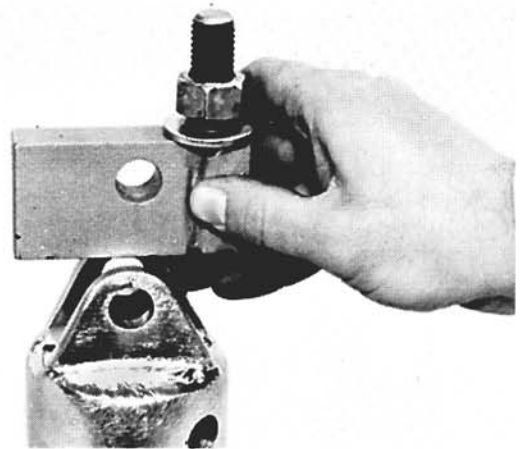

Figure 1
- 2) Insert 90 degree adapter between clamp bar tube's ears. (See Figure 1.)